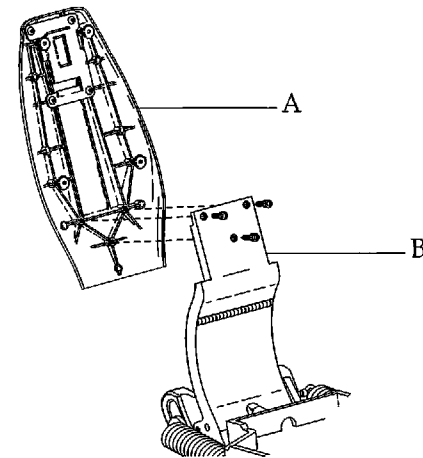

Figure 8. Attaching the chair back support to the chair back. (A) back support; (B) chair back
2. Attach the back support to the chair back with the mounting screws (see Figure 8).